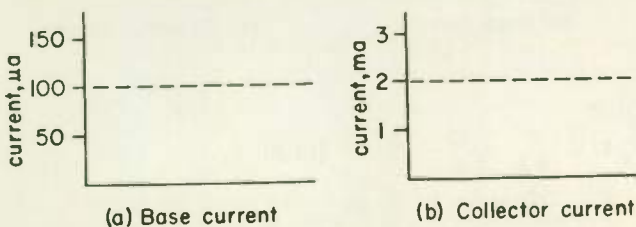

Fig. 35
1. Draw the waveforms for the (a) base current and (b) collector current on Fig. 35, showing both the d-c and a-c signal components. The peak to peak a-c input current is (c) _____ milliamperes; the peak to peak a-c output current is (d) _____ milliamperes.